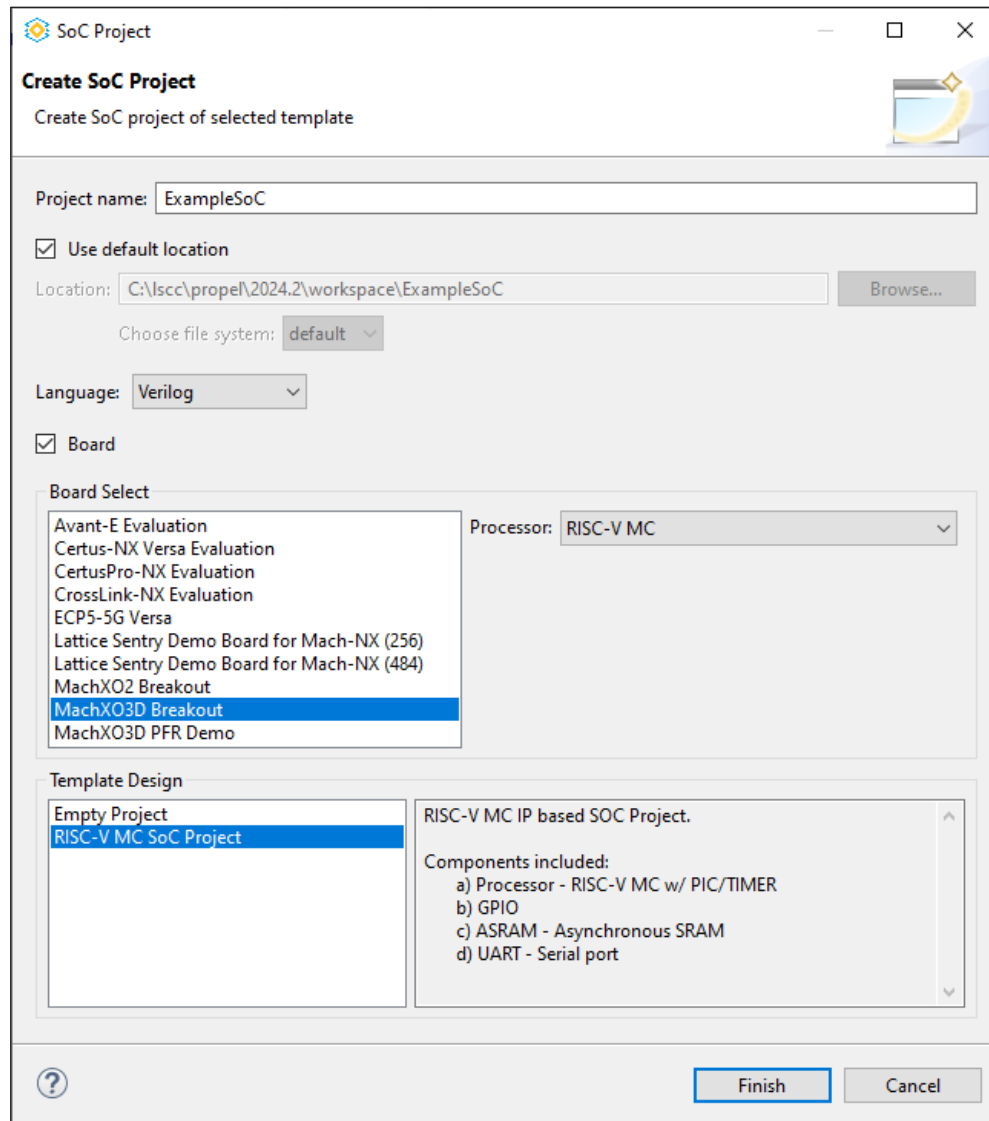

Figure 3.13. Specify a Board for Template SoC Project
- Alternatively, to specify a board for a new Template SoC project, check the **Board** checkbox (Figure 3.13).